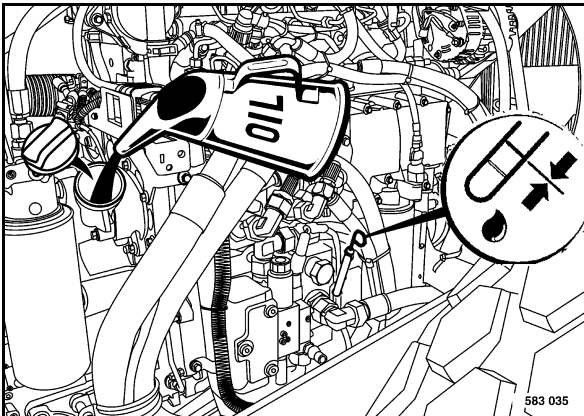

Fig. 140
- Fill in new engine oil (Fig. 140).